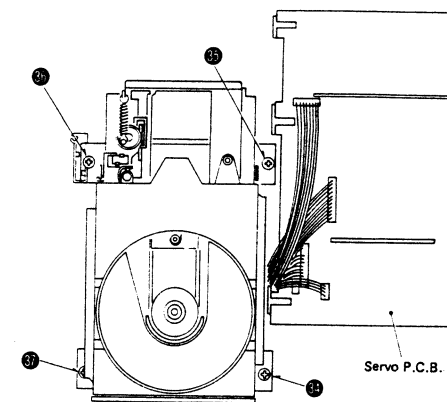

Fig. 13
2. Remove the 4 setscrews [Fig. 13 ; ④ ~ ⑦] of traverse unit. Then the traverse unit can be removed.
1. Remove the 4 setscrews [Fig. 13 ; ④ ~ ⑦] of traverse unit.